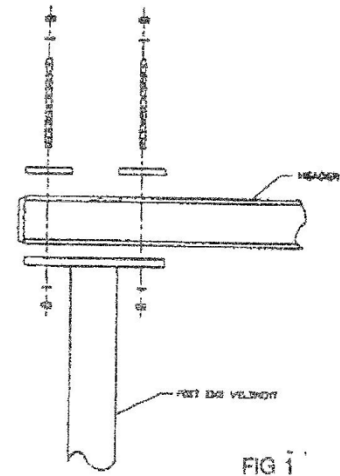

FIG 1
- 1.2 Using header clamp plates and 5/8" all thread rod, assemble header to upright post. (FIG 1)